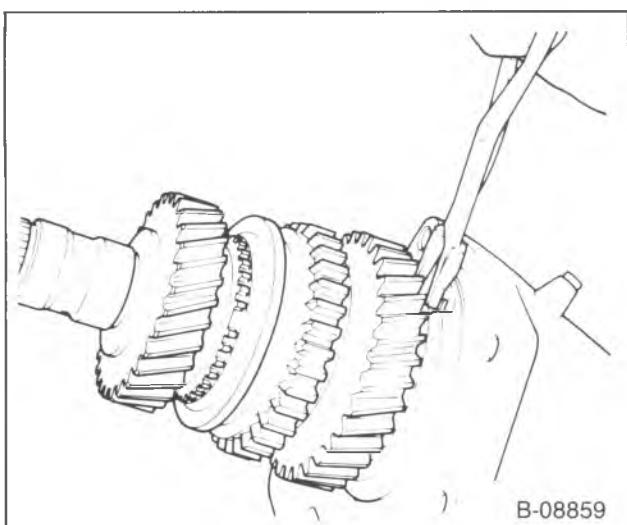
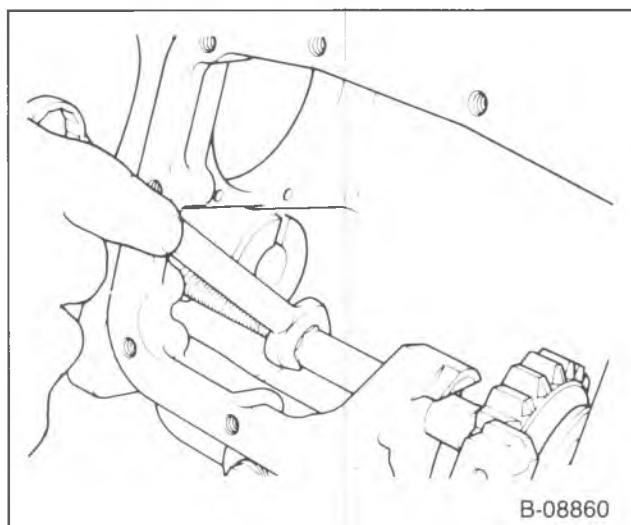

Figure 4—Removing the Mainshaft
Figure 5—Removing the Reverse Idler Shaft
- Slide the reverse idler gear (422) to the center of the idler shaft.
- 10. Snap ring (454) and the mainshaft (418) from the extension housing (figure 4).
- 11. Countergear (430) and the thrust washers.
- 12. Reverse idler shaft (424).
- Turn the nut against the socket, driving the shaft out of the bore (figure 5).
- 13. Reverse shift shaft (443) and the seal.